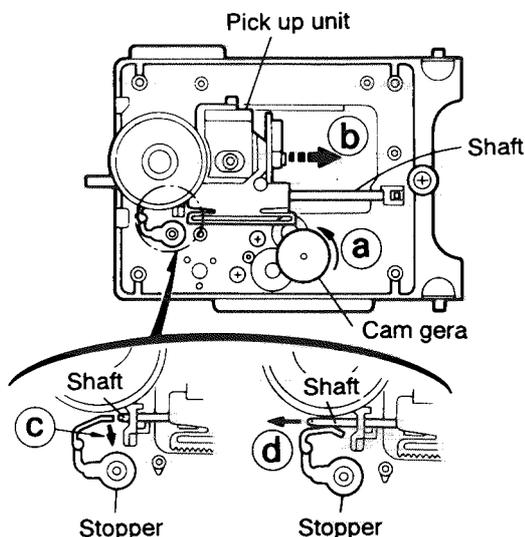

Fig. 2-22
Removing the CD pickup unit (See Fig. 2-22)
2. According to the above step, shift the CD pickup unit to the center position (Fig. 2-22).
3. While pressing the stopper retaining the shaft in the arrow direction (c), pull out the shaft in the arrow direction (d) (See Fig. 2-22).